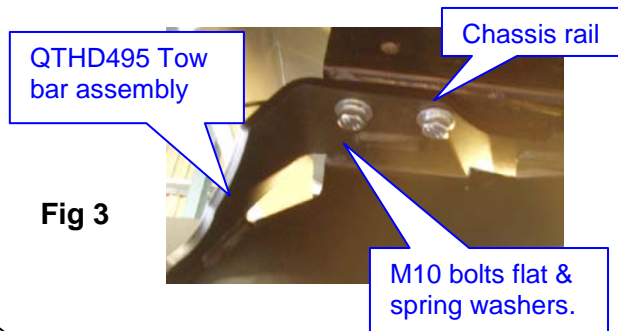

Fig 3
- b. Fasten loosely with M10 x 30 x 1.25 bolts flat & spring washers provided see fig 3.